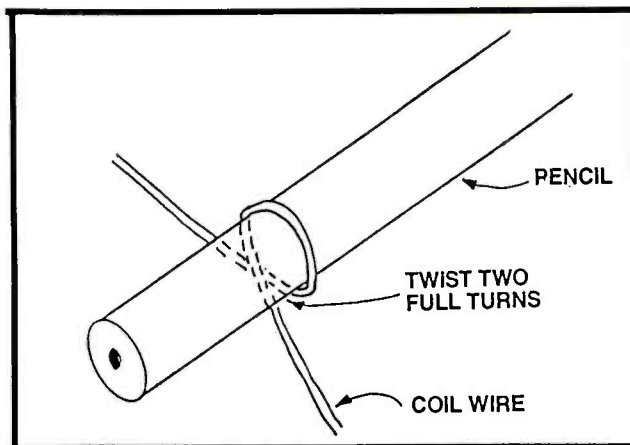

Figure 3: How to twist a coil tap
**STEP 3.** (Refer to Photos #2 and 3, and Figures 3 and 4) Wind ten turns, close but not overlapping, on the coil form and make a tap by securing the coil with a piece of tape, then looping the wire around a pencil. Twist the loop twice and then remove the pencil and tape. Wind ten more turns and make another tap using